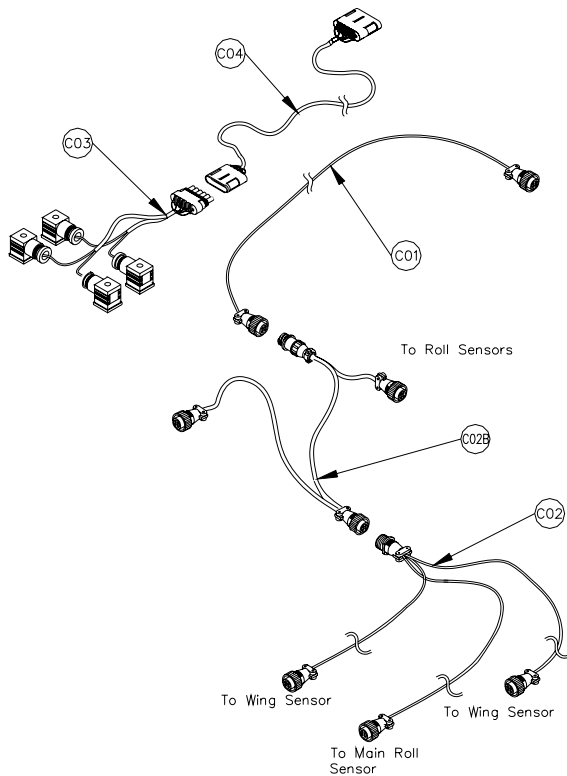

Figure 25 – Cable Configurations: C01, C02, C02B, C03 and C04
13. Connect the 6-pin Tower on the UC4+ valve cable (C03) to C04 at the rear of the sprayer (Figure 25).
15. Connect the CAN Node cable (C02B) to the 4-pin AMP plug on C01 (Figure 25).
18. Connect the sensor branch cable (C02) to the 4-pin AMP plug on C02B (Figure 25).